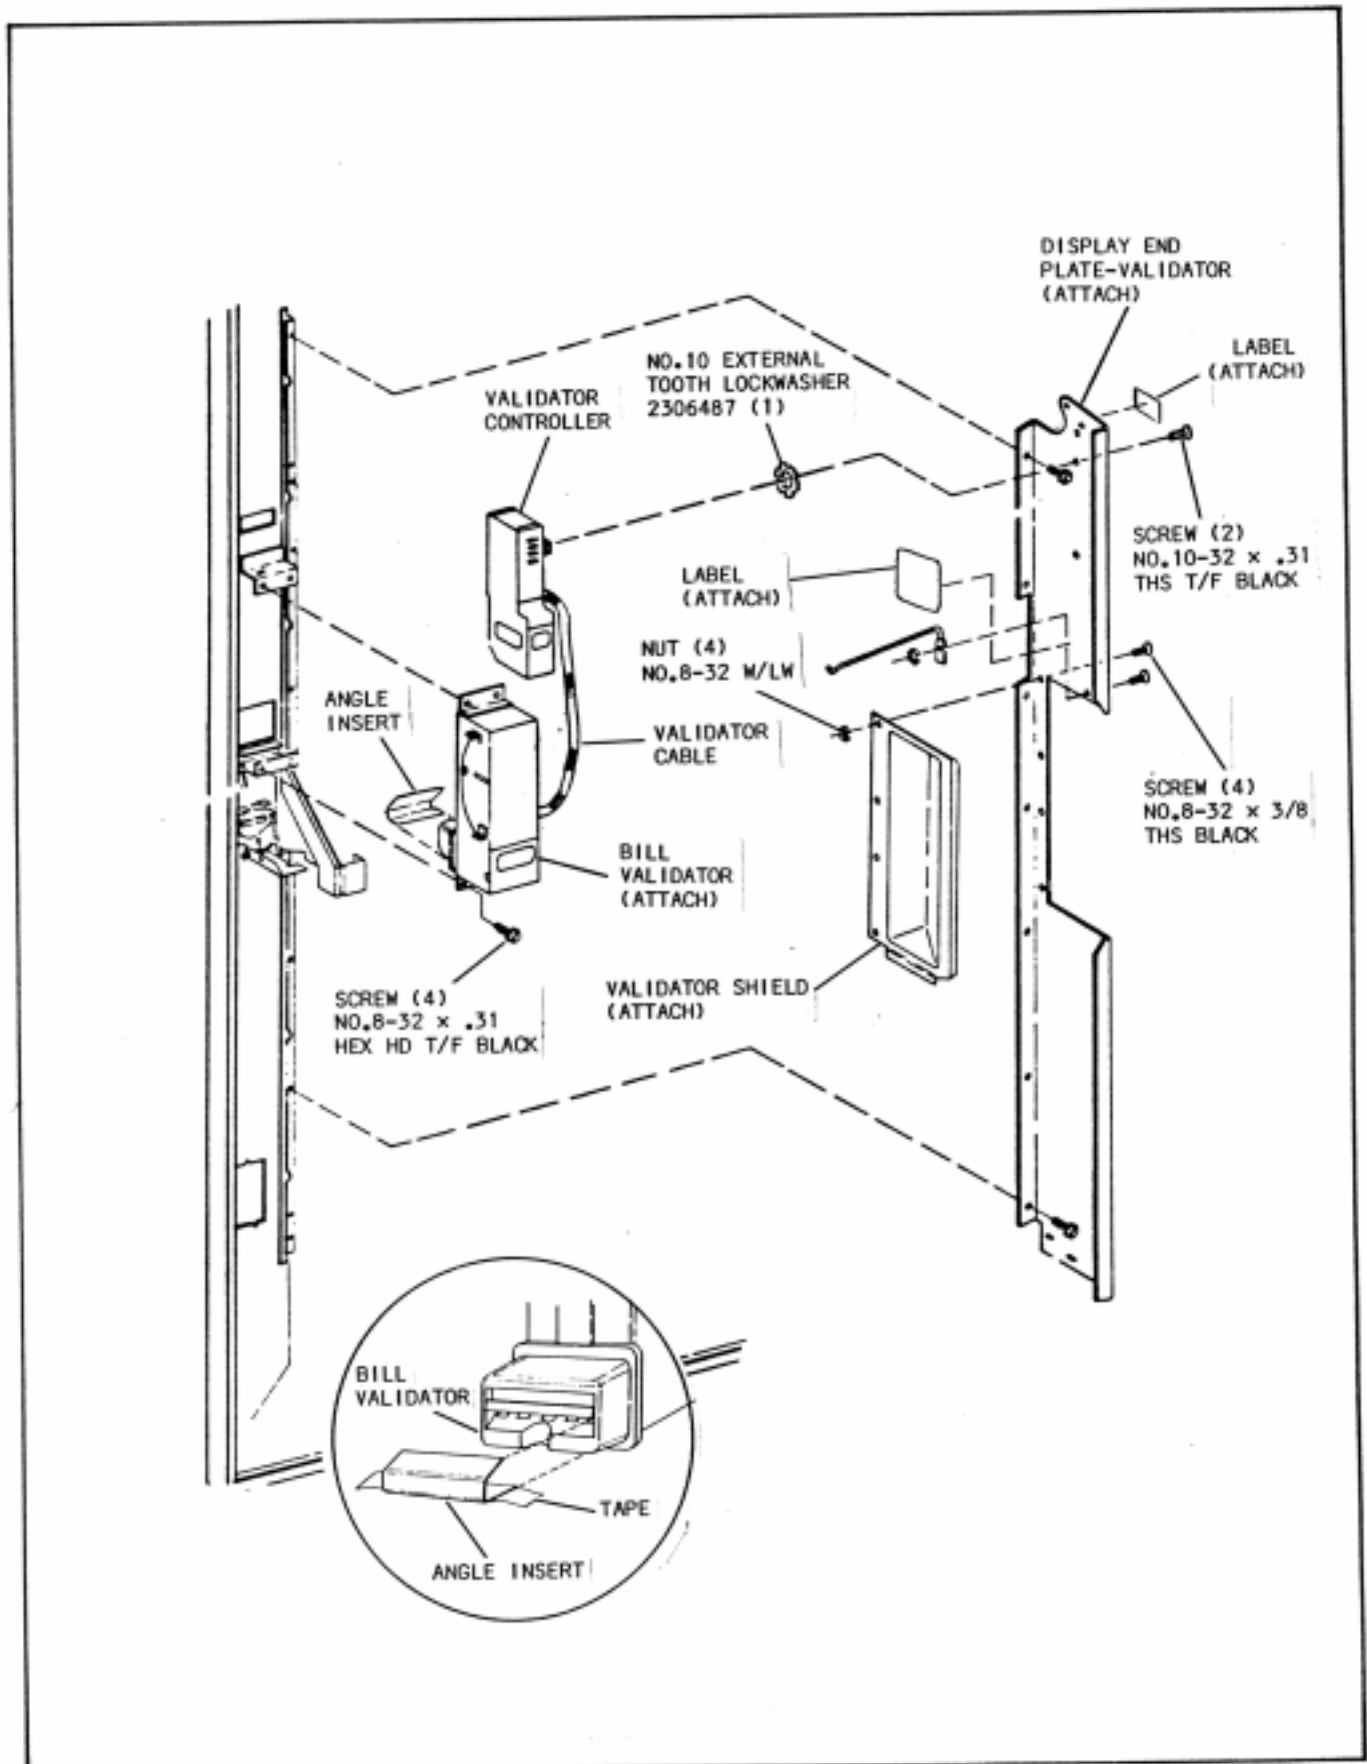

FIGURE 3
- A. Tape angle insert (P/N 1452323) to bill validator (P/N 1452336) (See Figure 3).